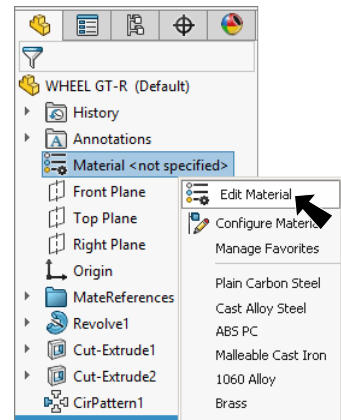

Fig. 23
Step 1. Right click Material  in the Feature Manager and click Edit Material, Fig. 23.